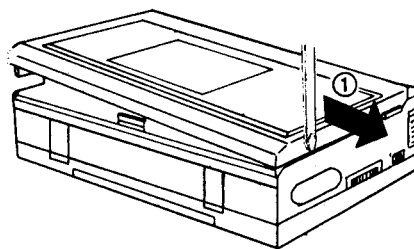

Fig. 2
3. Push the cassette lid in the direction of arrow ①, and disconnect the inside boss. (Fig.2)